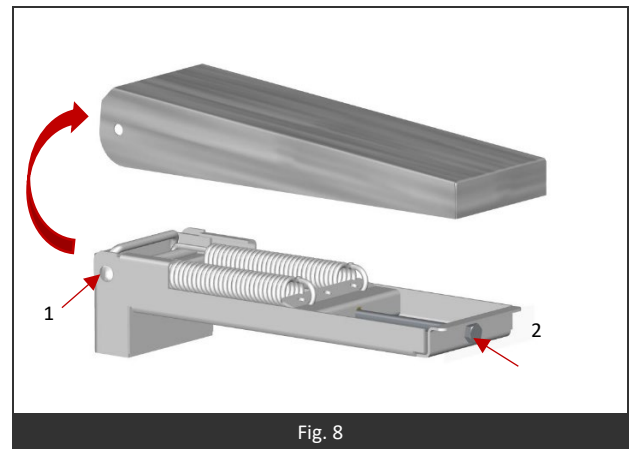

Fig. 8
- Remove the hinge cover by unscrewing the 2 pan head screws on the ends of the lid (Fig8 Item1) and pull it upwards.
- The hinge is adjusted by tightening or loosening the screw (Fig8 Item2)